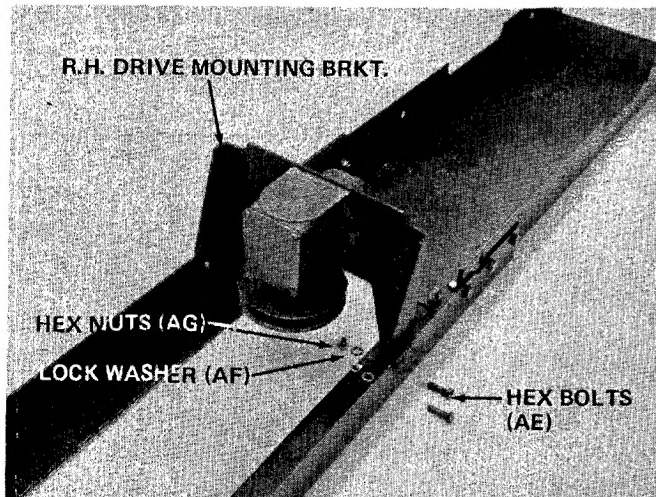

FIGURE 12
9. Secure right hand drive mounting bracket to rear support angles with hex bolts (AE), lock washers (AF) and hex nuts (AG). See figure 12. **Tighten securely.**